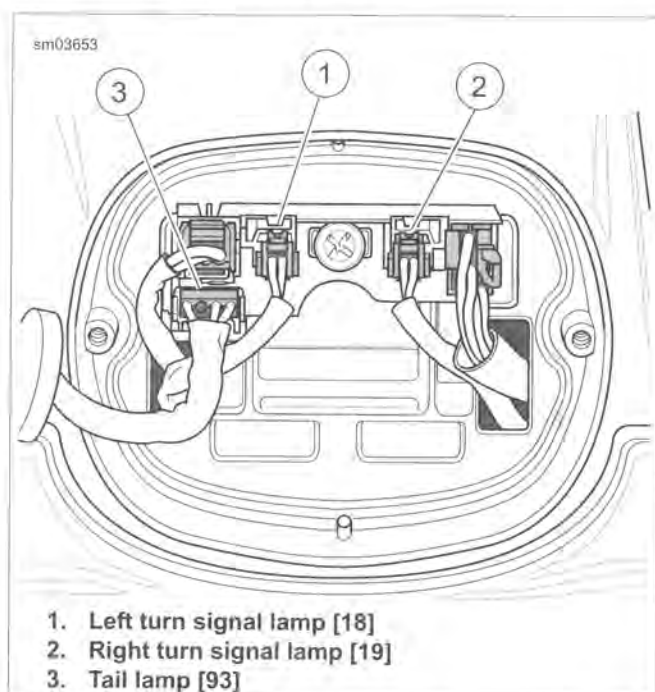
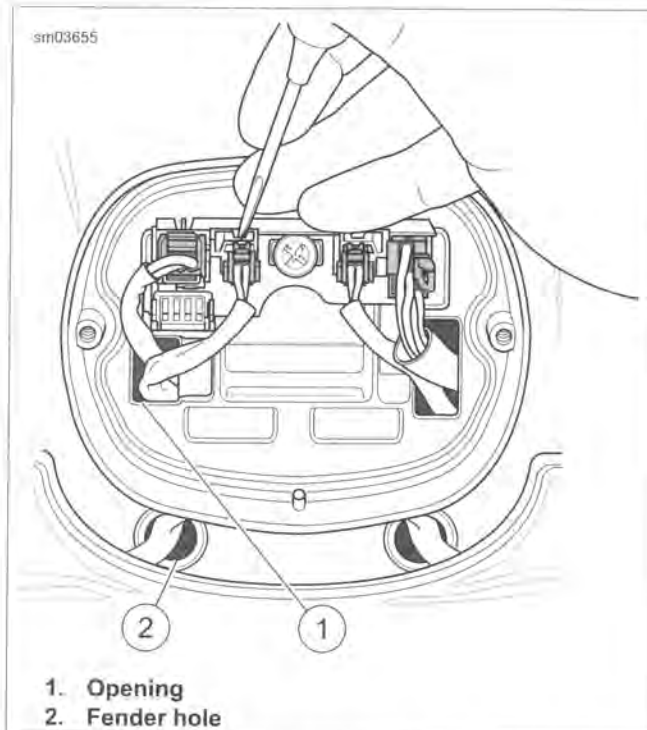

Figure 7-39. Release Tail Lamp Connector
Figure 7-40. Release Turn Signal Lamp Connector
2. See Figure 7-39. Remove and disconnect tail lamp assembly from chrome base.
3. See Figure 7-40. Disconnect turn signal lamp connector (2-place Multilock). Use a pick or small screwdriver to press latch.
6. Draw out harness and connector through fender hole (2).
4. See Figure 7-40. Route connector through channel in bracket, then through fender hole (2).
6. Feed connector through opening (1) in chrome base.
7. See Figure 7-39. Connect turn signal harness connector (1 or 2).
8. Connect tail lamp connector (3). Verify that tail lamp harness is positioned outboard of the rear fender tip lamp and left turn signal lamp harnesses.